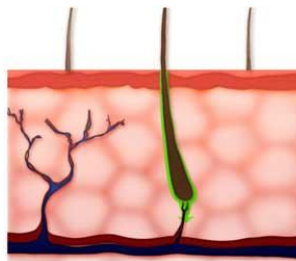

Figure 3: Through the appendages (hair follicles, glands)
3. Through the appendages (Figure 3)
As shown in Figure 3, the third pathway for diffusion of chemicals into and through the skin is skin appendages (i.e., hair follicles and glands). This pathway is usually insignificant because the surface area of the appendages is very small compared to the total skin area. However, very slowly permeating chemicals may employ this pathway during the initial stage of absorption.